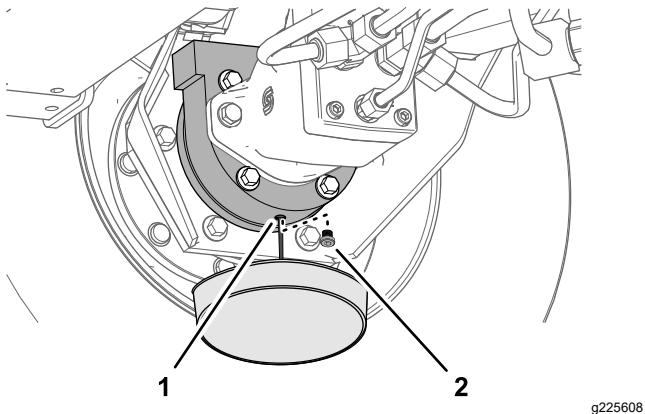

Figure 129
6. Place a drain pan under the brake housing, remove the drain plug, and allow the oil to fully drain (Figure 129).